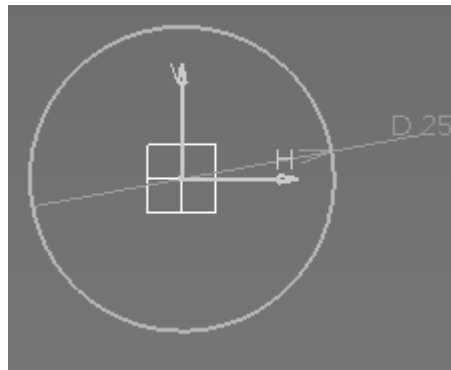

Figure 1.2
- 1.18 Create a circle at the coordinates(0,0) with a diameter of **25mm**(Figure1.2)